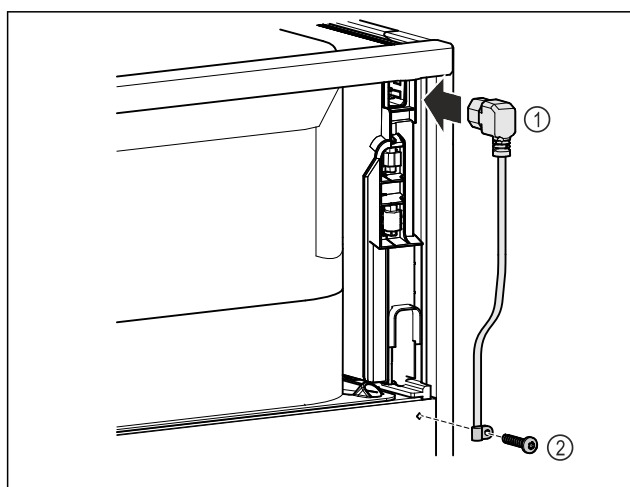

Fig. 9
- IEC socket of the power cable Fig. 9 (1) on the rear side of the appliance.
- Install mains tension relief. Fig. 9 (2)